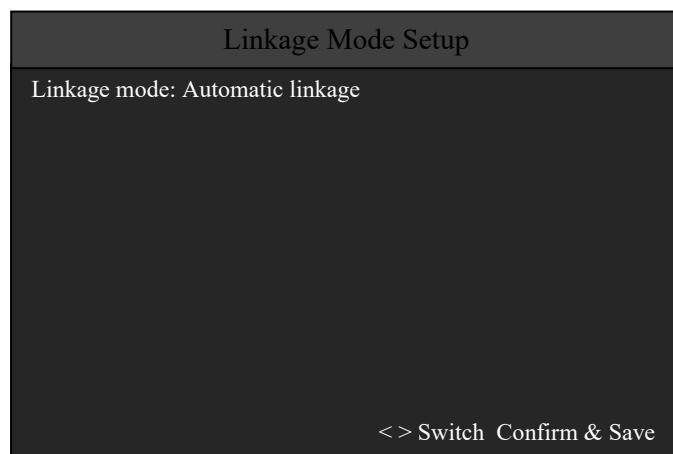

Fig. 3-28 Linkage mode
In system setup interface, press number key 7 or move the cursor to 7, and then press "√" key to go into linkage mode interface. In this interface, the user can modify local machine linkage mode manually, as shown in Fig. 3-28.